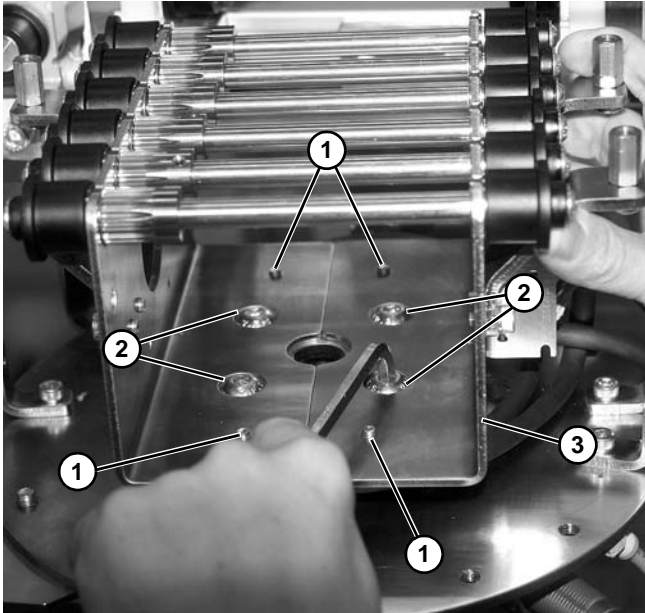

Figure 152
3. Remove four screws (Figure 152, item 1) from underneath the frame.
4. Remove four screws (Figure 152, item 2) holding turn and transfer assembly (Figure 152, item 3) onto top plate.